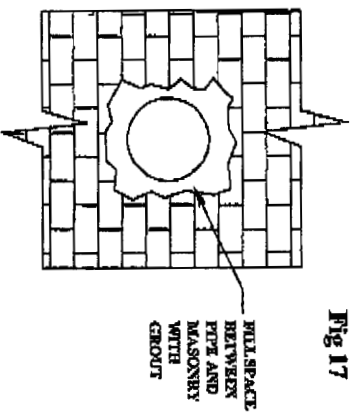

Fig 17
7. Once the horizontal pipe section is in place, the space between the pipe and the masonry may be filled with high temperature grout, as shown in Figure 17, if desired.